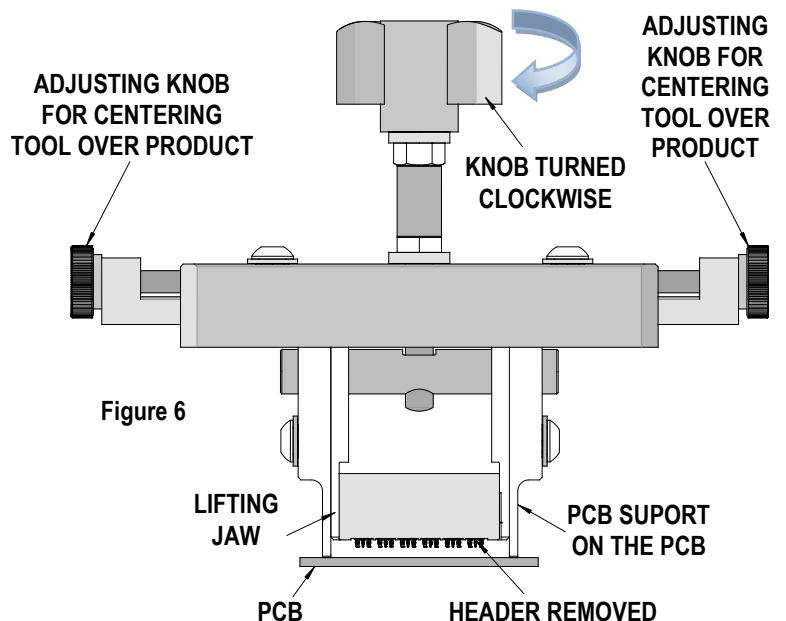

Figure 6
7. Continue turning the Lift Screw Knob clockwise (CW) until the backplane header is removed from the printed circuit board. See Figure 6.